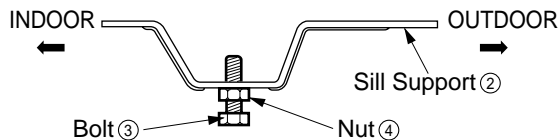

Fig. 3
3. Loosely assemble the Sill Support ② using the parts in Fig. 3.